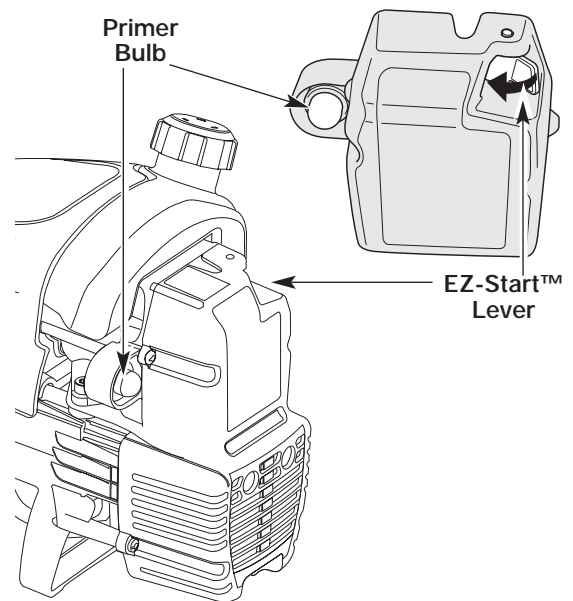

Figure 7
3. Fully press and release the primer bulb 10 times, slowly, until **FUEL IS VISIBLE IN THE PRIMER BULB**. See Figure 7. If you can't see fuel in the bulb, press and release the bulb as many times as it takes before you can see fuel in it.
4. Push the EZ-Start™ Lever to the left until it clicks and locks into place. See Figure 7.
6. When the engine starts, squeeze the throttle control to warm up the engine for 5 to 10 seconds. The EZ-Start™ Lever will click off automatically. See Figure 7.